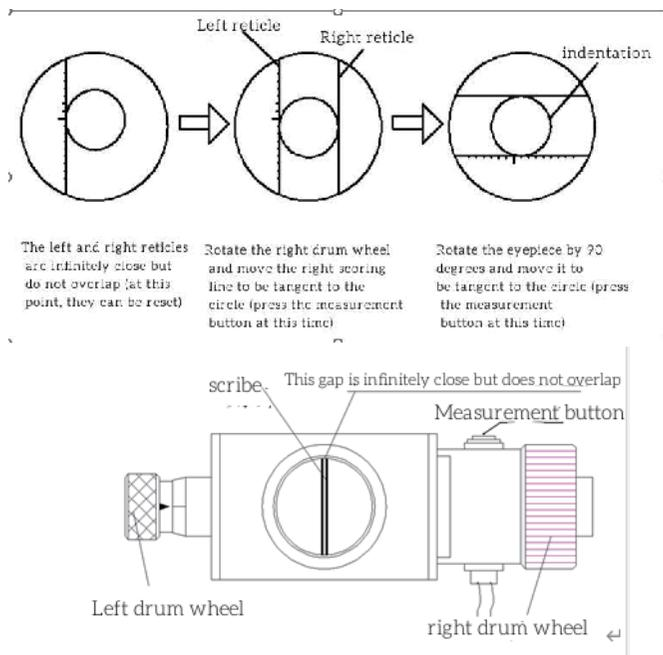

Figure 7
6. Step down the test bench (5) by about 2mm, turn the objective lens (14) forward, and you can see the indentation in the field of view of the micrometer eyepiece (9). Based on your own vision, adjust the test bench (5) up and down to make it the clearest. If the two notches in the eyepiece are blurry, the eye mask (10) can be adjusted to make it the clearest, depending on each person's vision.
7. Rotate the right wheel (18) and move the reticle in the eyepiece to gradually bring the two reticles closer. When the inner side of the reticle is infinitely close (there is a critical state of no light gap between the inner sides of the reticle, but the two reticles must not overlap), press the "reset key". At this point, the d1: value on the main screen is zero, which is the zero position in the terminology. At this point, the diagonal length of the indentation can be measured in the micrometer eyepiece (9). (Figure 7)
8. Rotate the right drum (18) to separate the scoring lines, then move the left drum (15) to move the left scoring line. When the inner side of the left scoring line is tangent to the intersection point of the left contour of the indentation, move the right scoring line again to make the inner side tangent to the intersection point of the indentation contour (Figure 7). After measuring, press the measurement button (17) on the eyepiece to complete the measurement of the diameter length d1 of the circular indentation; Rotate the eyepiece (7) 90 ° and measure the length d2 of the circular diameter using the above method. Press the measurement button (17), and the screen will display the displayed values for this measurement and the converted hardness values. If you believe there is an error in the measurement, you can repeat the above procedure to measure again.